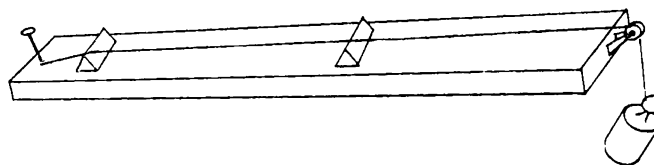

Fig. 333
- (i) Pluck a sonometer wire (Fig. 333). How can the note produced be altered?